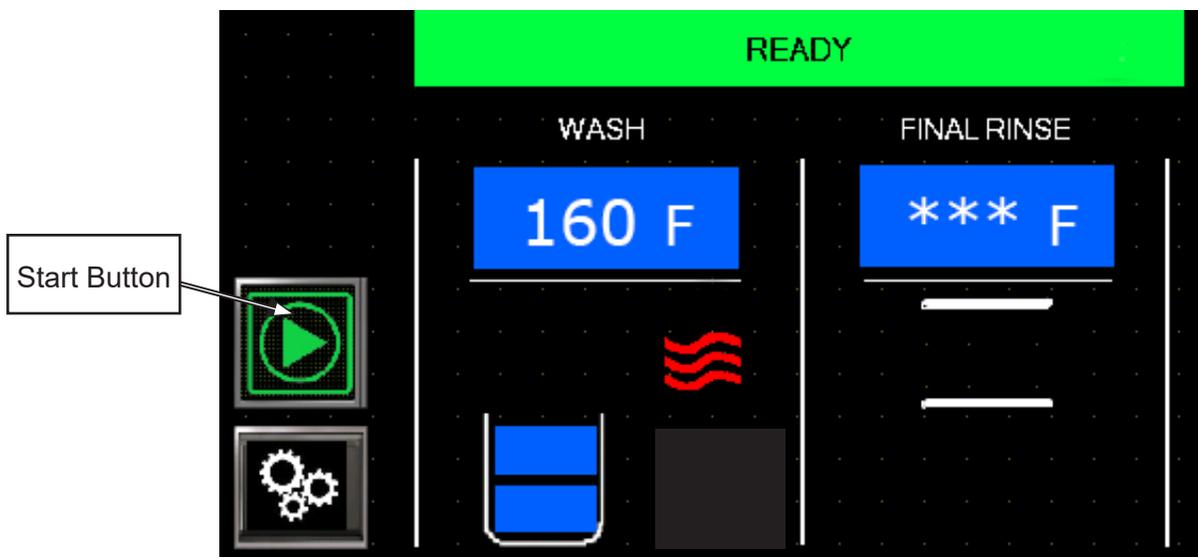

Fig. 17
- 1** Machine is ready to wash when "READY" appears in the status bar and the green start button appears, Fig.17. Wait until the wash temperature reaches 160°F/71°C.